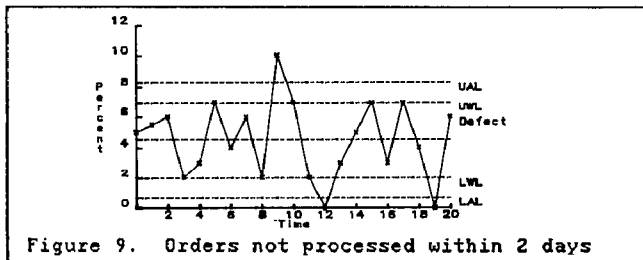

Figure 9. Orders not processed within 2 days
**P CHART** A chart that monitors the proportion of defective items where you know the size of a fixed or variable sample. Figure 9